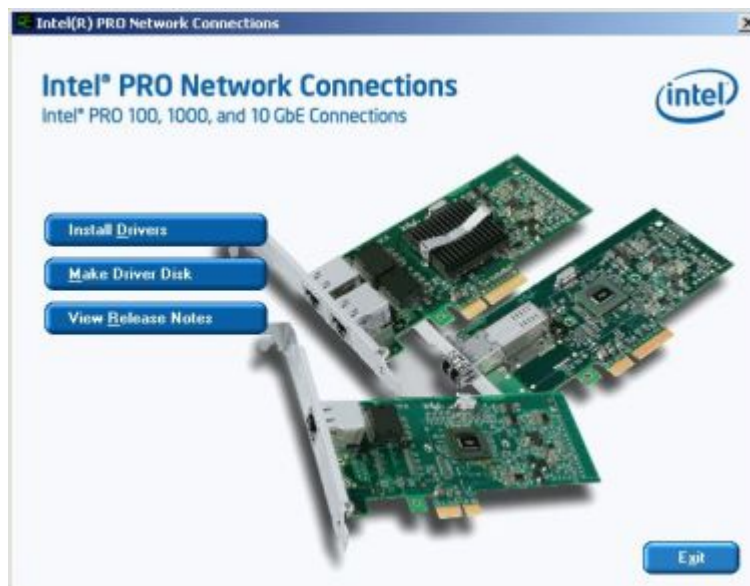

Figure 7-37: Intel® PRO Network Connections window
Step 17: The Intel® PRO Network Connections window appears. See **Figure 7-37**.
Step 18: Click **INSTALL DRIVERS** in **Figure 7-37**.